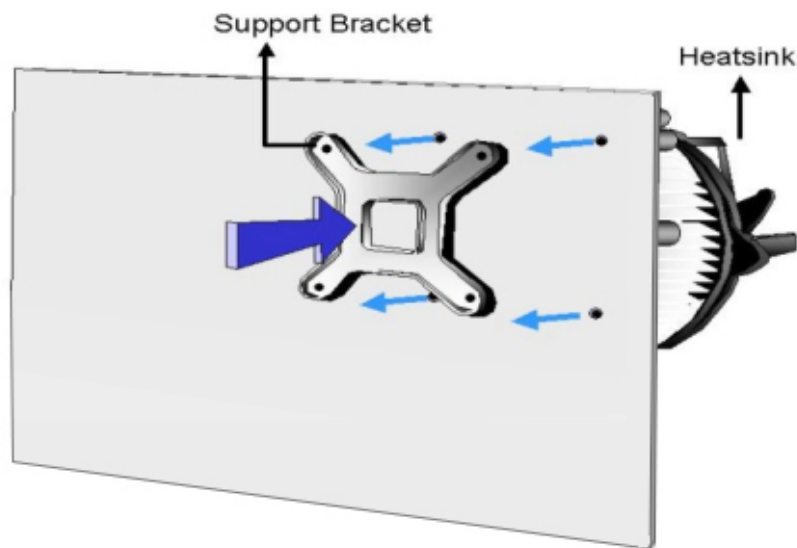

Figure 4-6: Securing the Heat sink to the IMB-G41A
Step 4: Secure the cooling kit. From the solder side of the PCB, align the support bracket to the screw threads on heat sink that were inserted through the PCB holes. (See **Figure 4-6**)